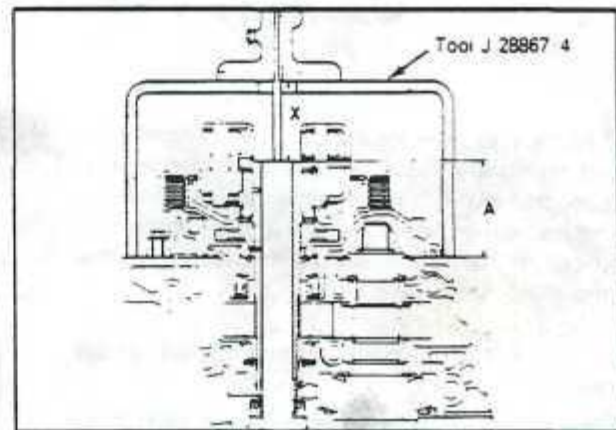
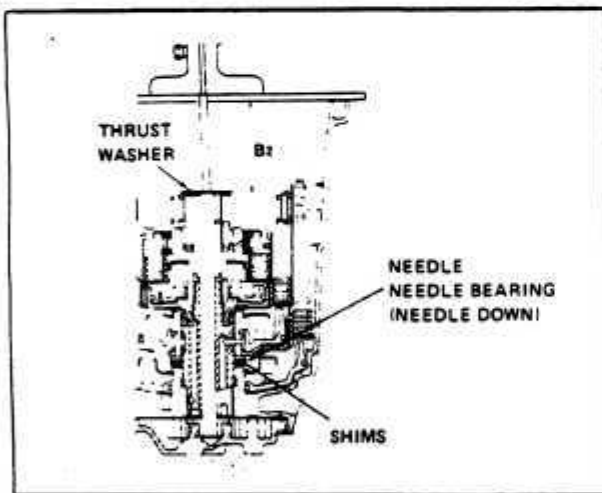

Fig. 41 PLANETARY CARRIER TO FINAL DRIVE CASE MEASUREMENT
Fig. 42 TRANSMISSION END PLAY ADJUSTMENT
- b. Position the special measuring tool J 28867/4 (part of the A/T tool kit) on the final drive case without the gasket. *Fig. 41*
Use a depth gauge to measure the distance "X" *Fig. 41* from the top face of the special tool to the top of the planetary carrier shaft, THRUST WASHER REMOVED.
- c. Subtract "X" *Fig. 41* from 120 mm (4.724 in.) to obtain the dimension "A". *Fig. 41*
- d. Install clutch C2 in the transmission case. Rotate the clutch until it engages all of the brake B1 discs and is fully seated. *Fig. 42*
- e. Fit the washer on clutch C2 with the flange on the washer facing towards clutch C2. *Fig. 42*
- f. Place the needle roller bearing on top of the washer with the needles facing the washer. *Fig. 42*
- h. Place the thrust washer on the hub of clutch C1. *Fig. 42*
- i. Clean the contact surface of the transmission case and place a straight edge across the face of the transmission. *Fig. 42*
Use a depth gauge to measure the distance "B" from the top of the straight edge to the top of the thrust washer on the hub. *Fig. 42*
- k. Calculate the end play clearance by *subtracting* dimension "A" *Fig. 41* from dimension "B". *Fig. 42*
End play clearance should be between 0.37 – 0.74 mm (90.015 – 0.029 in.). If the clearance is not within specifications, it will be necessary to increase or decrease the thickness of the shim(s) located between the transmission case and clutch C2. *Fig. 42*